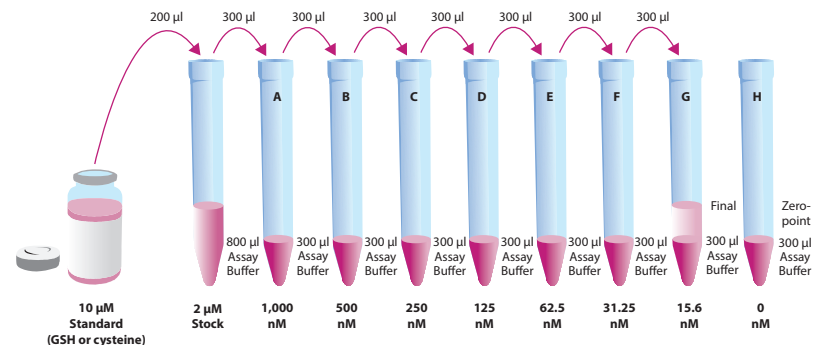
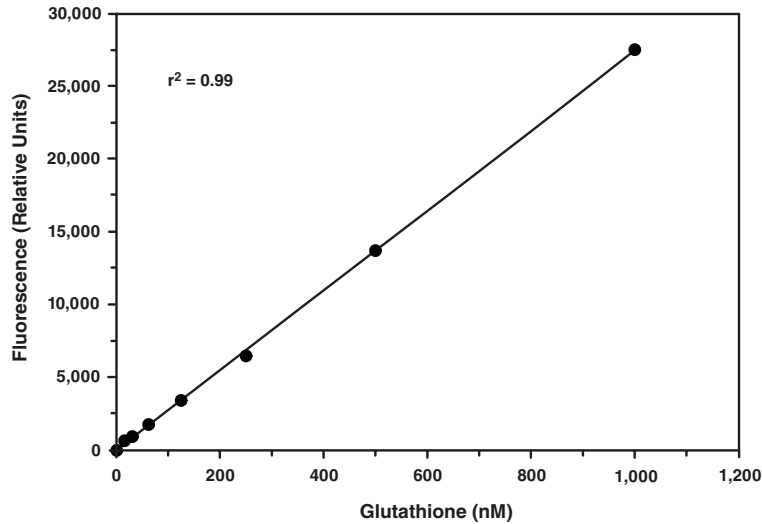

Figure 2. Standard preparation
Figure 3. Glutathione standard curve
3. Plot the adjusted fluorescence of the standards (from step 2 above) as a function of the final concentration of glutathione or cysteine from Figure 2. See Figure 3 and 4 for typical standard curves (pages 14 and 15).